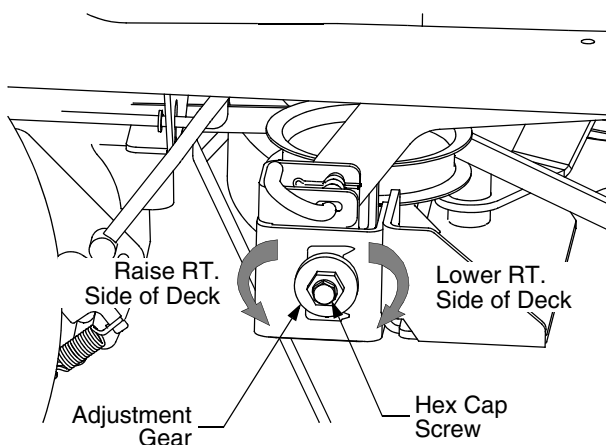

Figure 29
- Loosen, but do not remove, the hex cap screw on the right deck hanger bracket. Refer to Figure 29.
- Level the deck by using a wrench to turn the adjustment gear (found immediately behind the hex cap screw just loosened) clockwise to lower the right side of the deck, or counterclockwise to raise the right side of the deck. See Figure 29.